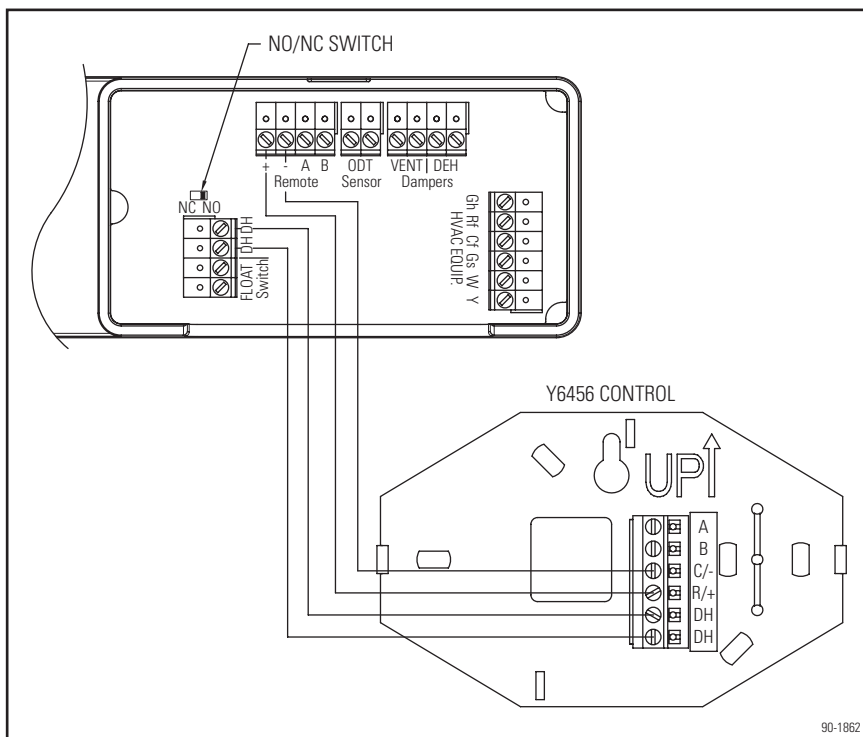

Figure 20. Y6456 External Control Wiring
The Y6456 uses a normally open (NO), dry contact (i.e. not a triac or other semiconductor) relay to complete the circuit between the DH terminals of the dehumidifier control. If using other controls such as a thermostat with dehumidification outputs, ensure the output is a dry contact type and set the NO/NC switch on the dehumidifier control (see **Figure 20**) to correspond with the control being used.